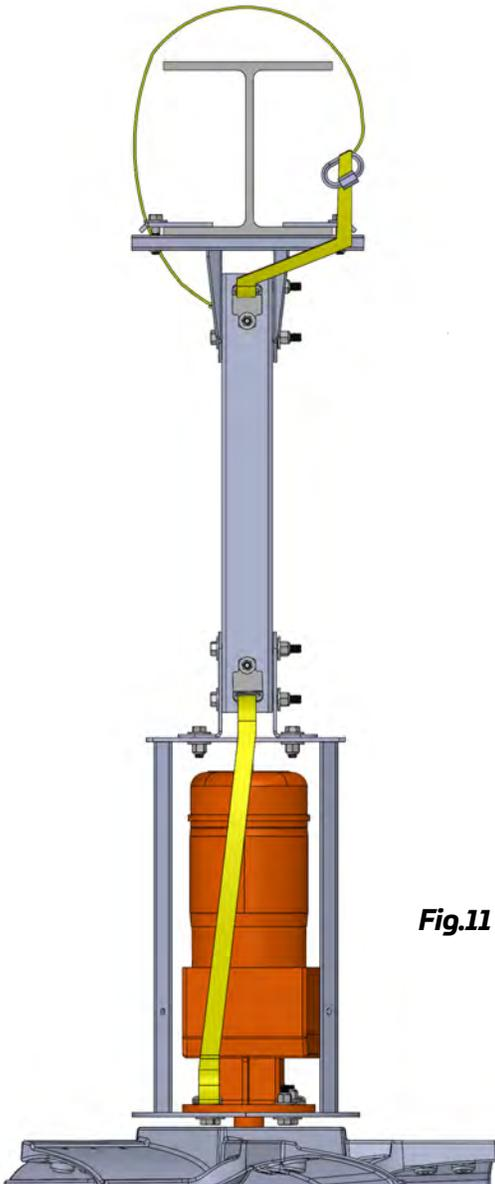

Fig.11
3. Attach both Z-Tech™ SS safety straps to the down tube and secure with the hardware provided (see Fig. 11)